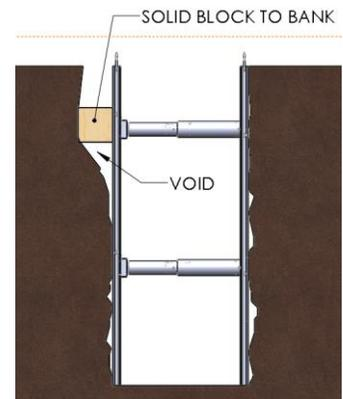

Figure 1: Voids in Excavation, See Note 5
- Faces of excavations shall be vertical and there shall be contact with the soil at each cylinder, see **Figure 1**.